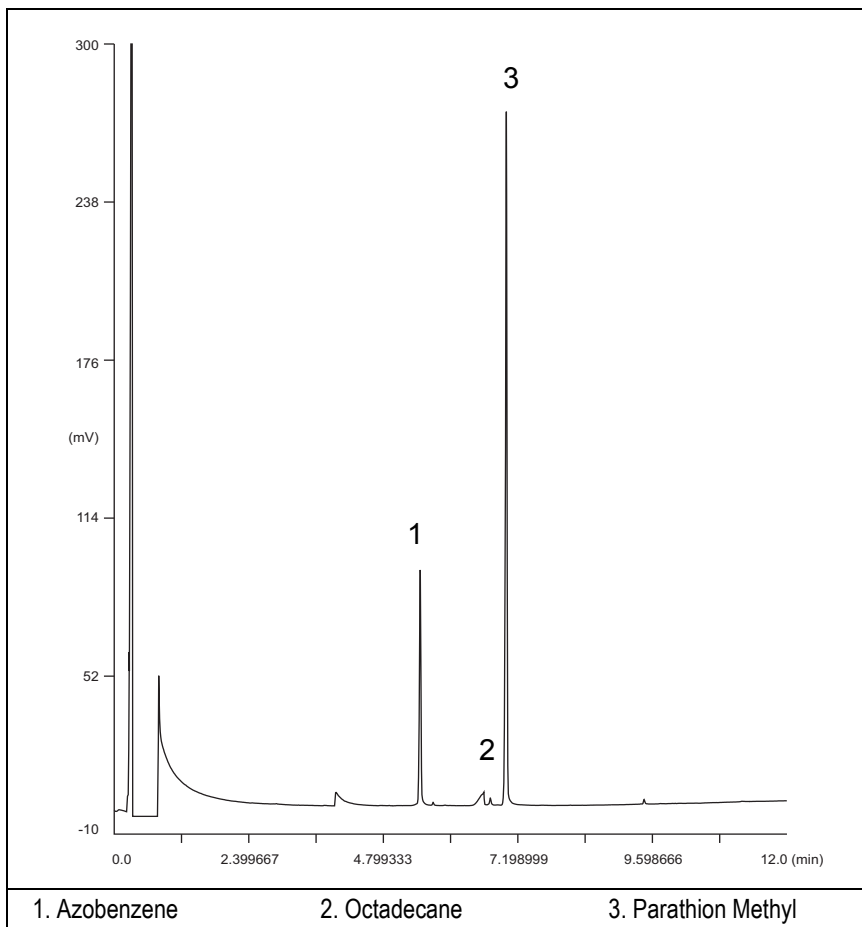

Figure 14-1. NPD-Packed Injection
13. Inject the test mixture and press **START** on the GC to begin the checkout run. The resulting chromatogram should look like the one shown in *Figure 14.1*.